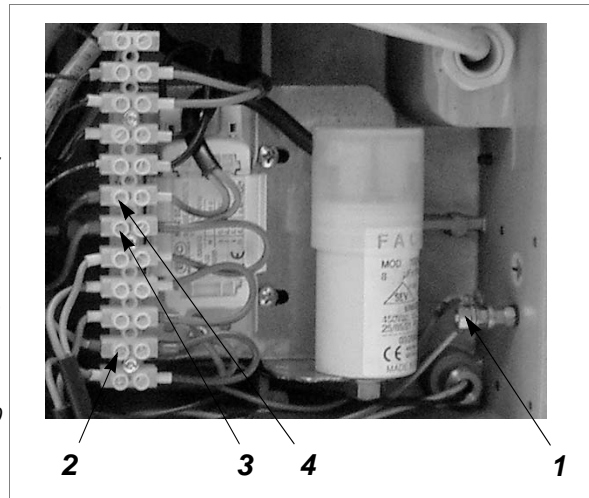

Fig. 40
- 3) Disconnect the 4 motor wires (1, 2, 3, 4) from their connections (fig.40).
- 20) Connect the 4 motor wires (1, 2, 3, 4) (fig.40).